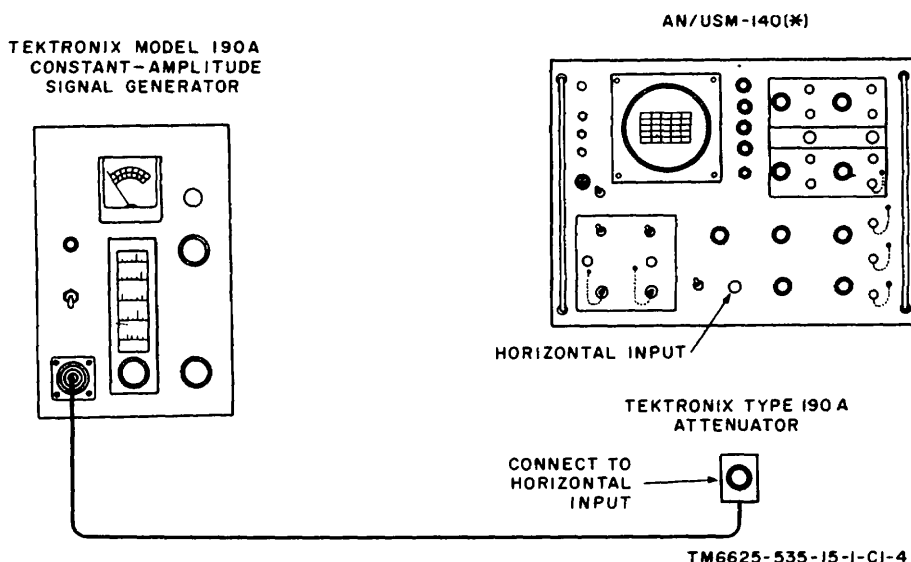

Figure 7-4. Horizontal amplifier frequency response test.
f. Connect the equipment as shown in figure 7-4. Set the HORIZONTAL DISPLAY switch to .1 VOLTS/CM. Set up the constant amplitude signal generator to deliver a 50-kilocycle (kc) output.